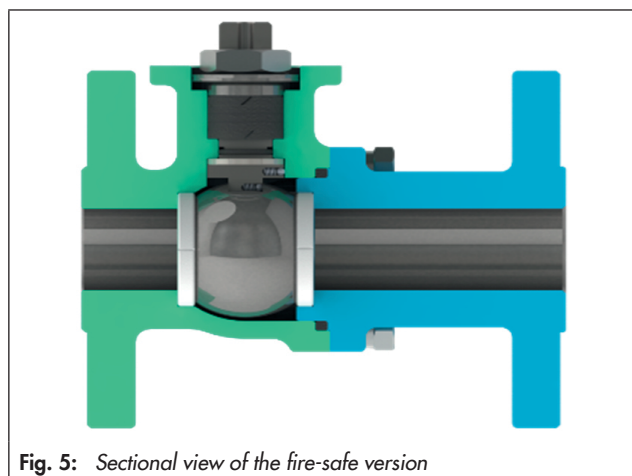
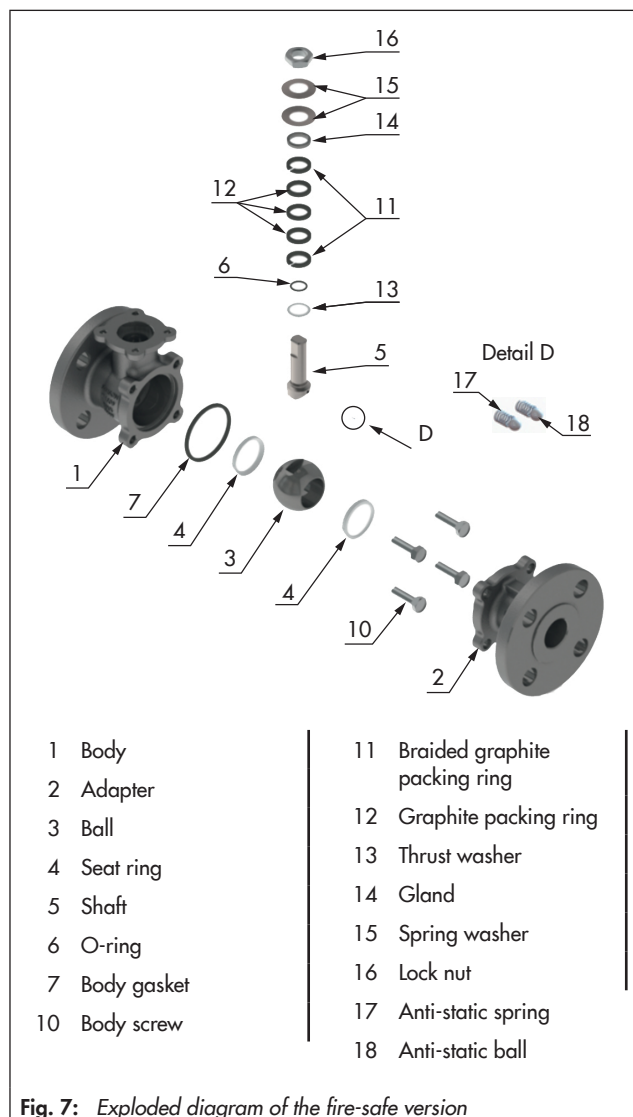

Fig. 5: Sectional view of the fire-safe version
Fig. 7: Exploded diagram of the fire-safe version
The shaft (5) of the **fire-safe version** is sealed by a graphite packing (11 to 16) (see Fig. 5 and Fig. 7).